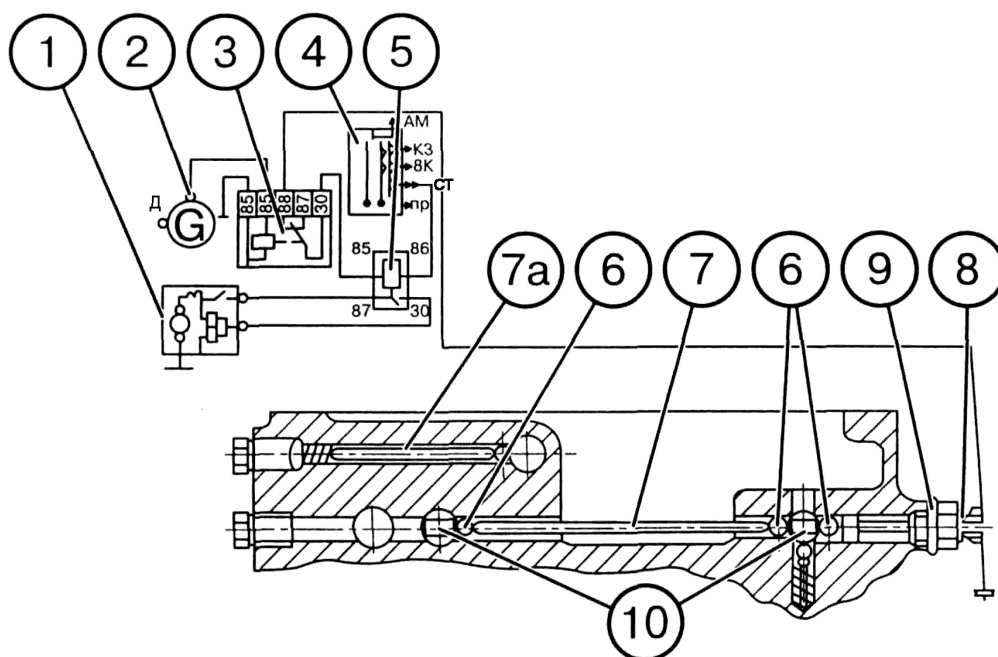

Fig. E-15.7. Diagram of interlocking the engine starting:
As a precautionary measure against the engine starting when the range is switched on, the tractor is equipped with a special interlock device (Fig. E-15.7). The interlock consists of a switch (8) located in the transmission gearbox casing on the left side, balls (6) and pins (7, 7a).